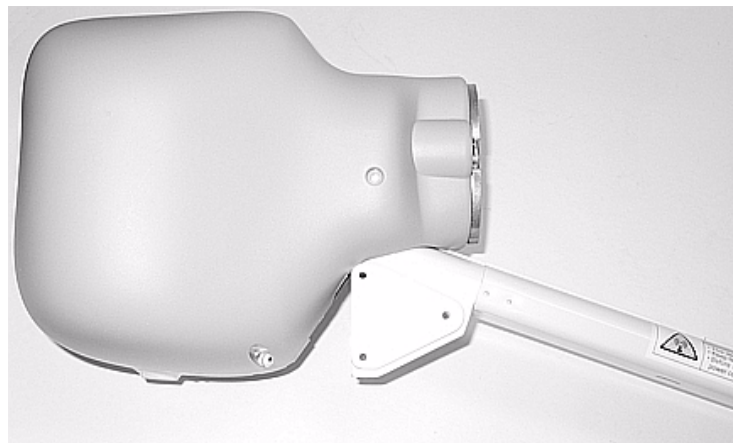

Figure 29: Feed assembly with shroud
3. *Optional:* Install the two side screws. The final assembly will look like Figure 29.